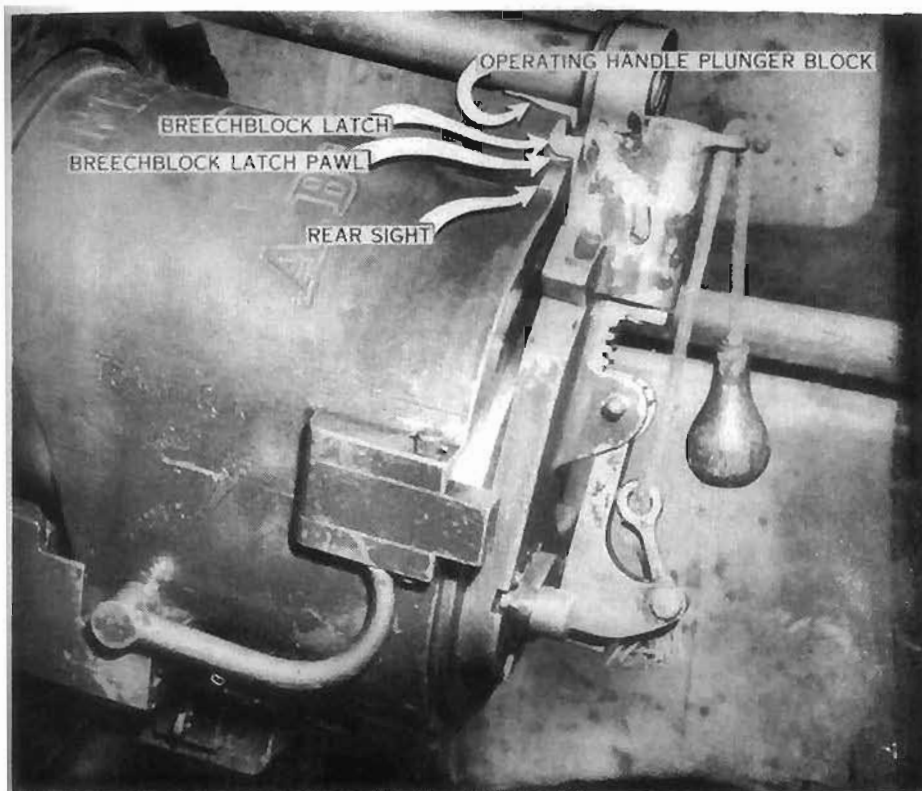

Figure 28
- c. As breechblock is opened, pawl rides over rear sight and is tripped (fig. 28).